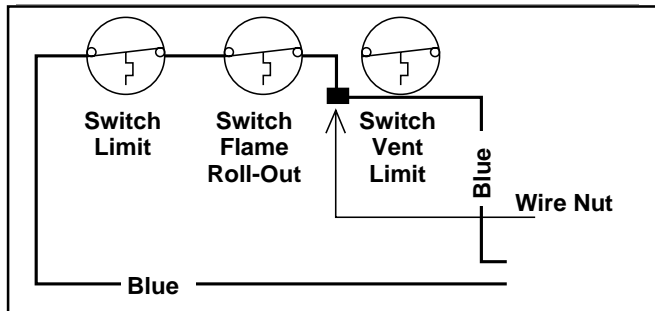

Figure 10. Limit Circuit Wiring
3. Bypass the vent switch by removing both wires from the vent switch and attaching them to the wire nut. (See Figure 10.)